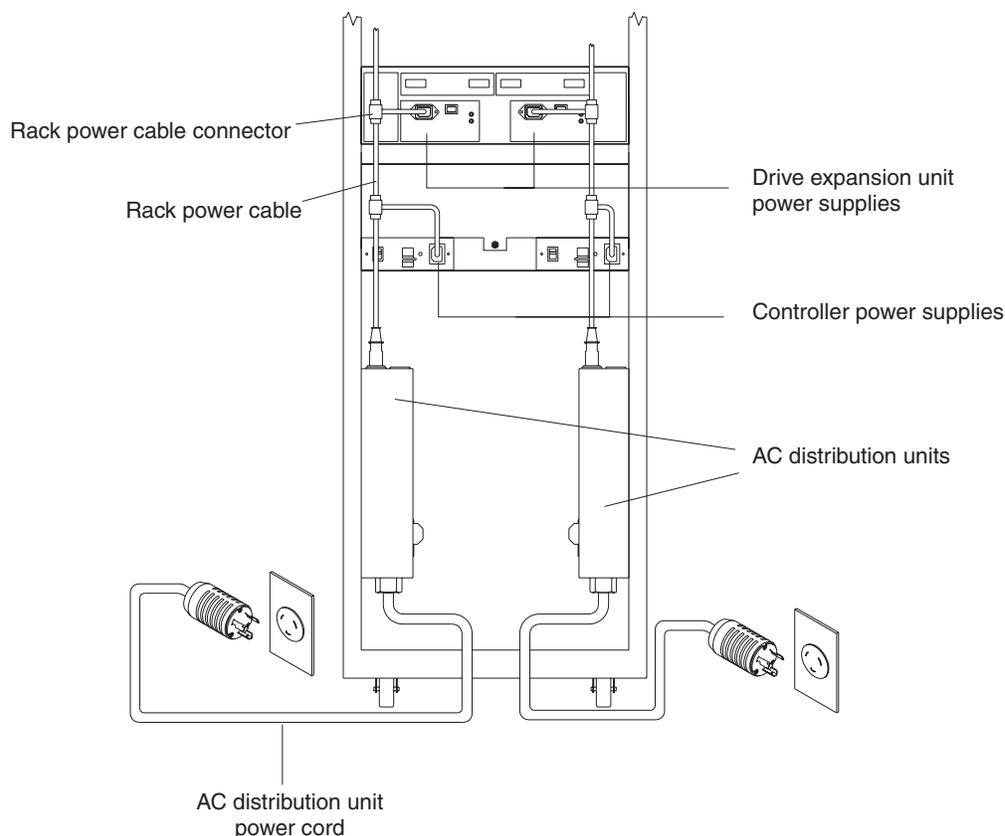

Figure 32. Redundant AC power connections to controllers and drive expansion units
Note: To maintain power redundancy, plug the FAST600 Storage Server's right and the left power supplies into two independent external power circuits through ac distribution units inside a rack cabinet or directly into external receptacles. Similarly, the right and left power supplies of the FAST drive enclosures attached to the FAST600 Storage Server should be plugged into the same two independent external power circuits as the FAST600 Storage Server. See Figure 32 on page 34 for an example of redundant power cabling.
- To maintain power redundancy, plug the FAST600 Storage Server's right and the left power supplies into two independent external power circuits through ac distribution units inside a rack cabinet or directly into external receptacles. Similarly, the right and left power supplies of the FAST drive enclosures attached to the FAST600 Storage Server should be plugged into the same two independent external power circuits as the FAST600 Storage Server. This ensures that the FAST600 Storage Server and all its attached drive enclosures will have power if only one power circuit is available. In addition, having all the right or all the left power supplies plug into the same power circuit will enable the components in the storage subsystem to power on simultaneously during an unattended restoration of power. See Figure 32 on page 34 for an example of redundant power connections.